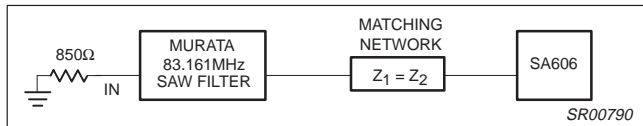

Figure 8. Impedance Matching from SAW Filter to SA606
- After a conjugate match between Z_1 and Z_2 has been achieved, connect the output of the SAW filter to the matching network. (Figure 8)